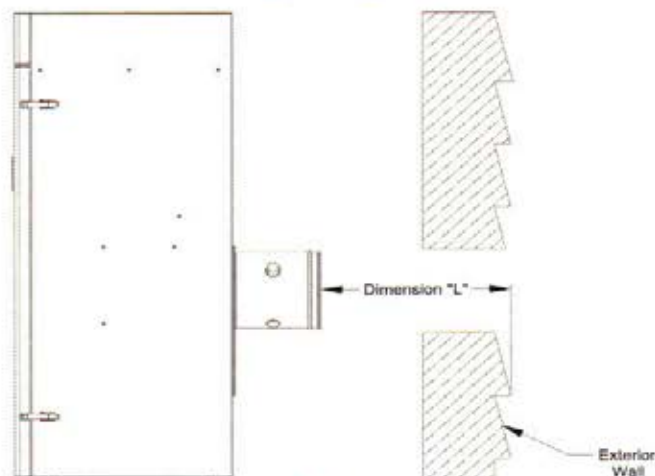

Figure 24: Dimension "L"
- Measure dimension "L" from exterior wall outer surface to the end of the last fitting. See Figure 24 "Dimension 'L'".